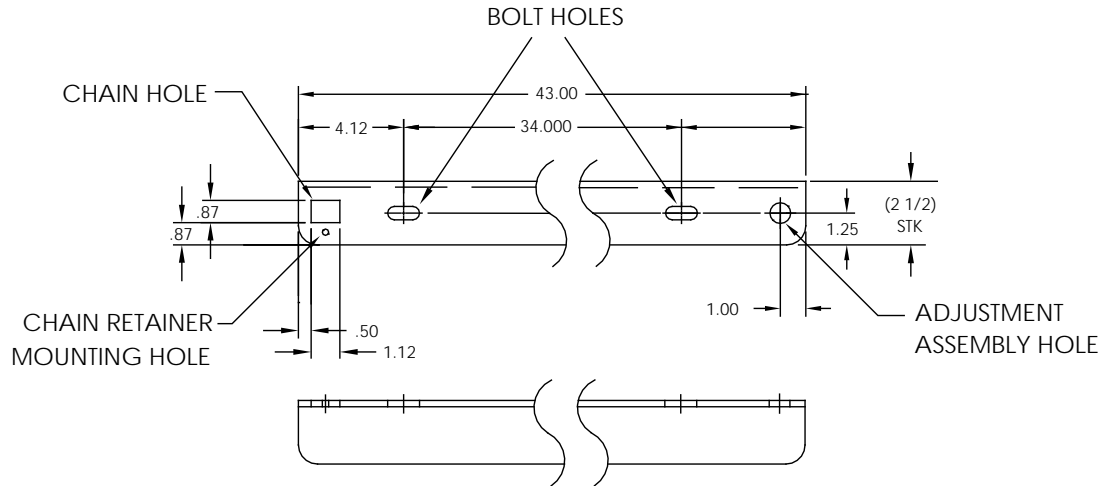

Figure 3-9 ENC82L-Mounting Brackets
- 1) Set two pieces of angle iron (see Figure 3-9) on the bottom of the upside down enclosure, being sure the side with the holes is facing the bottom of the enclosure and the solid sides of the angle iron are facing each other. Angle iron should be spaced so that the diameter of the pipe will fit in-between.